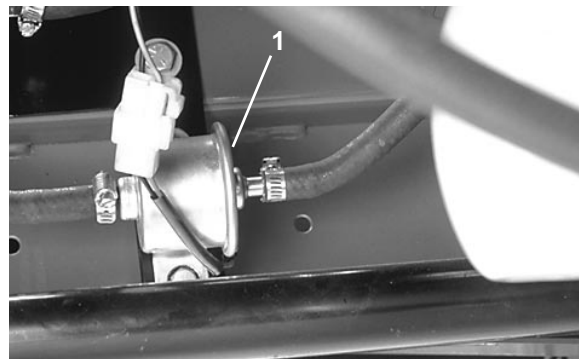

Figure 23
1. Clamp both fuel lines that connect to the fuel filter (Fig. 23) so gasoline cannot drain when the lines are removed.
3. Loosen the hose clamps (Fig. 23) at each end of the filter. Pull off the fuel lines and discard the filter.